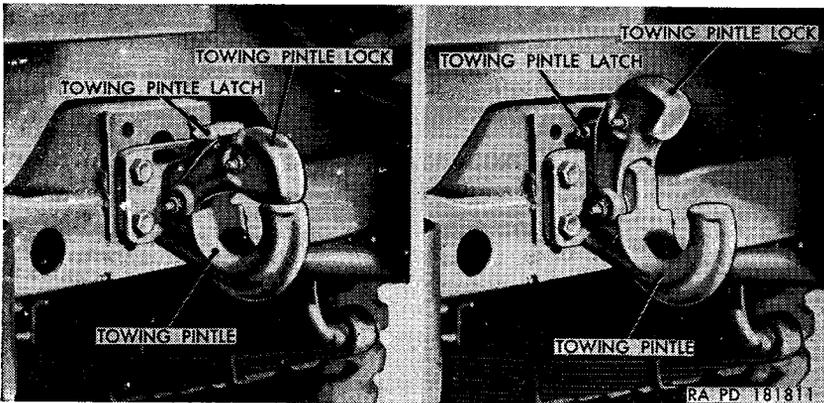

Figure 17. Towing pintle operating positions.
a. *General.* The vehicle is equipped with two front and two rear lifting shackles and a towing pintle (fig. 17). The pintle is located at the rear of the vehicle and is the prime means of attaching a trailer, towing cable, or towing bar. To open pintle, pull the towing pintle latch to the rear, and, at the same time, pull up on the towing pintle lock. To close pintle, push down on lock.
- (1) Connect the to-be-towed and towing vehicles by a suitable cable, chain, rope, or towing bar of sufficient length to permit maneuverability of both vehicles.
- (2) Place the transfer high and low range gearshift lever of towed vehicle in HIGH gear range position. Place the transfer front wheel drive gearshift lever in the OUT position.
- (3) Depress the clutch pedal and place the transmission gearshift lever in third (HIGH) gear.
- (4) Turn ignition switch to ON position. Pull out choke control if engine is cold. Release the hand brake handle.
- (5) Move towing vehicle slowly until all slack is taken up in towing line between towed and towing vehicle; then tow vehicle.
- (6) After towed vehicle is under way, release clutch pedal slowly and depress accelerator pedal slightly. As engine starts,